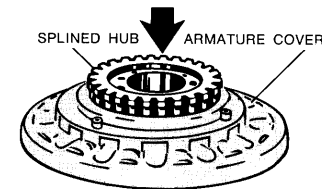

Figure 1.
2. If the armature and hub are not assembled, the armature should be placed on a flat surface with the working face down. With the hub flange up, align the spline in the hub with the spline in the armature (figure 1). Then press the hub down into the armature. Care should be taken not to cock the hub. Turn the assembly over and push the armature down over the hub until the armature contacts the hub flange (figure 2).